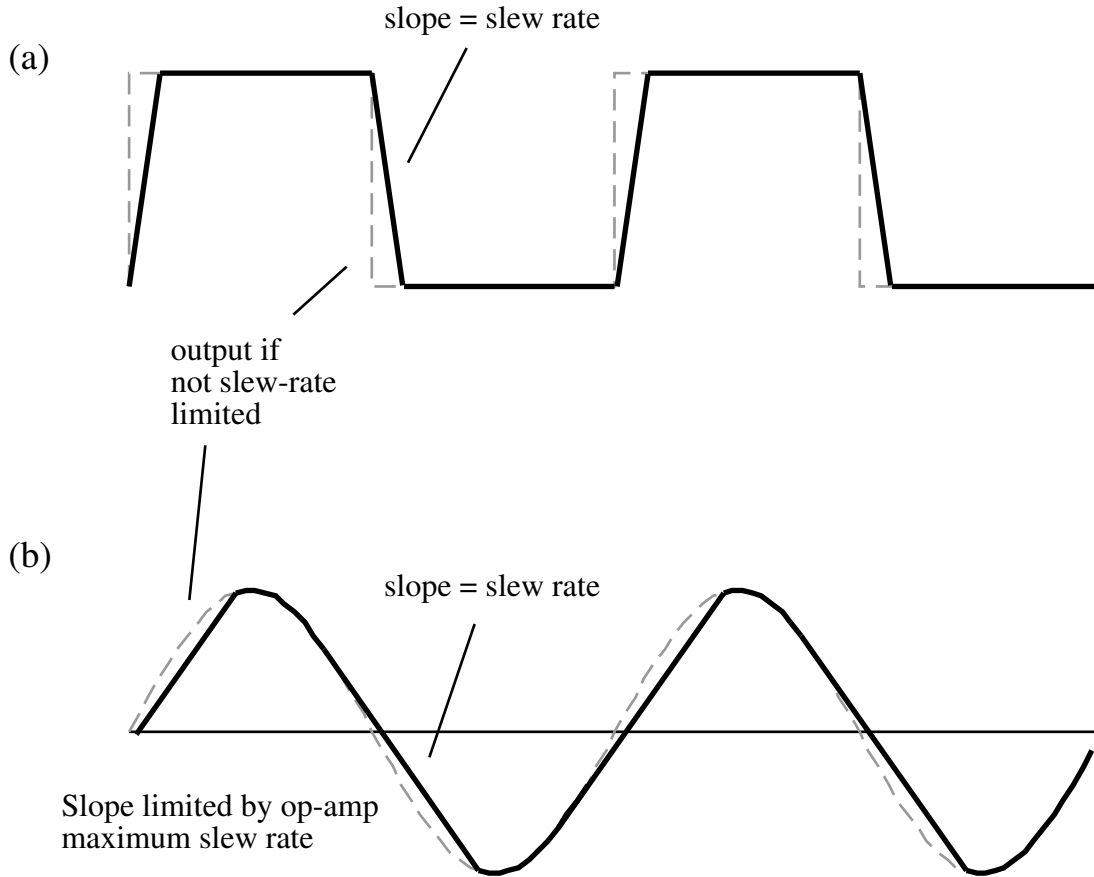

Figure 25: Slew rate limitations illustrated for square wave and sinusoidal wave inputs.
1. **Slew Rate.** Start by investigating one of the serious limitations of many op-amps: the slew rate. The slew rate is the maximum rate at which the output voltage can change. (Typical units would be volts per microsecond.) The effect of an op-amp's slew rate limitation is illustrated for two output waveforms in Fig. 25.